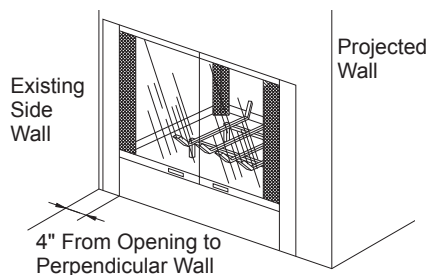

Figure 2 - Typical Two-Sided Fireplace Installation
- A location that avoids the cutting of joists or roof rafters will make installation easier. Figure 2 shows a typical two-sided fireplace installation.